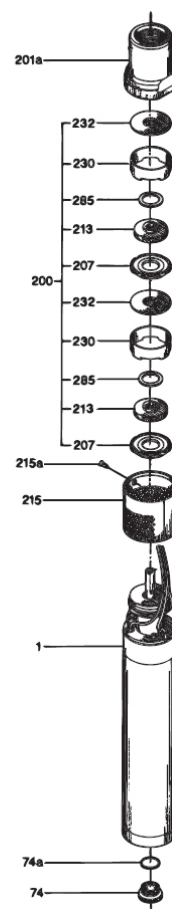

Fig. 16 Pump components
Procedure (see fig. 16):
1. Fit the seal (pos. 207) to the intermediate ring (pos. 230). The dogs of the intermediate ring must engage with the seal.
2. Position the intermediate ring and the seal on the motor with suction interconnector (pos. 1).
3. Fit the impeller (pos. 213) to the shaft and push it against the seal (pos. 207). The skirt of the impeller must fit into the hole of the seal.
4. Fit the washer (pos. 285) to the impeller.
5. Fit the guide vanes (pos. 232) to the intermediate ring.
7. Push the pump housing (pos. 201a) over the wear parts including impellers (pos. 200) and screw it on the suction interconnector on the motor (pos. 1). See fig. 16.
9. Push the strainer (pos. 215) over the pump housing, and press it against the motor. Turn the strainer to the right so that the hole of the strainer and that of the pump housing are in the same position.
10. Fit and tighten the screw (pos. 215a).